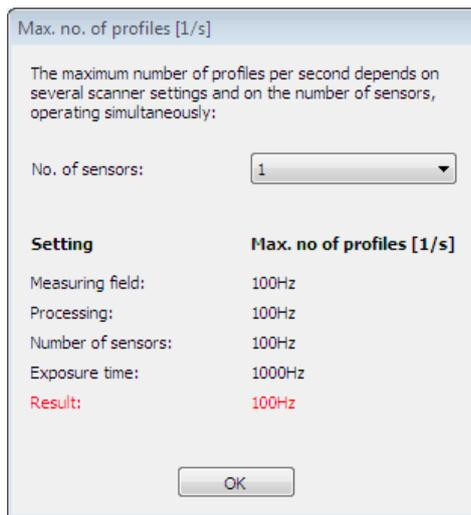

Fig. 4.52: "Max. no. of profiles [1/s]" dialog box
- 1 Max. no. of profiles [1/s]...:** With this button you open the dialog "Max. no of profiles [1/s]" where you can determine the maximum possible profile frequency depending on the currently selected scanner settings (see Fig. 4.52).